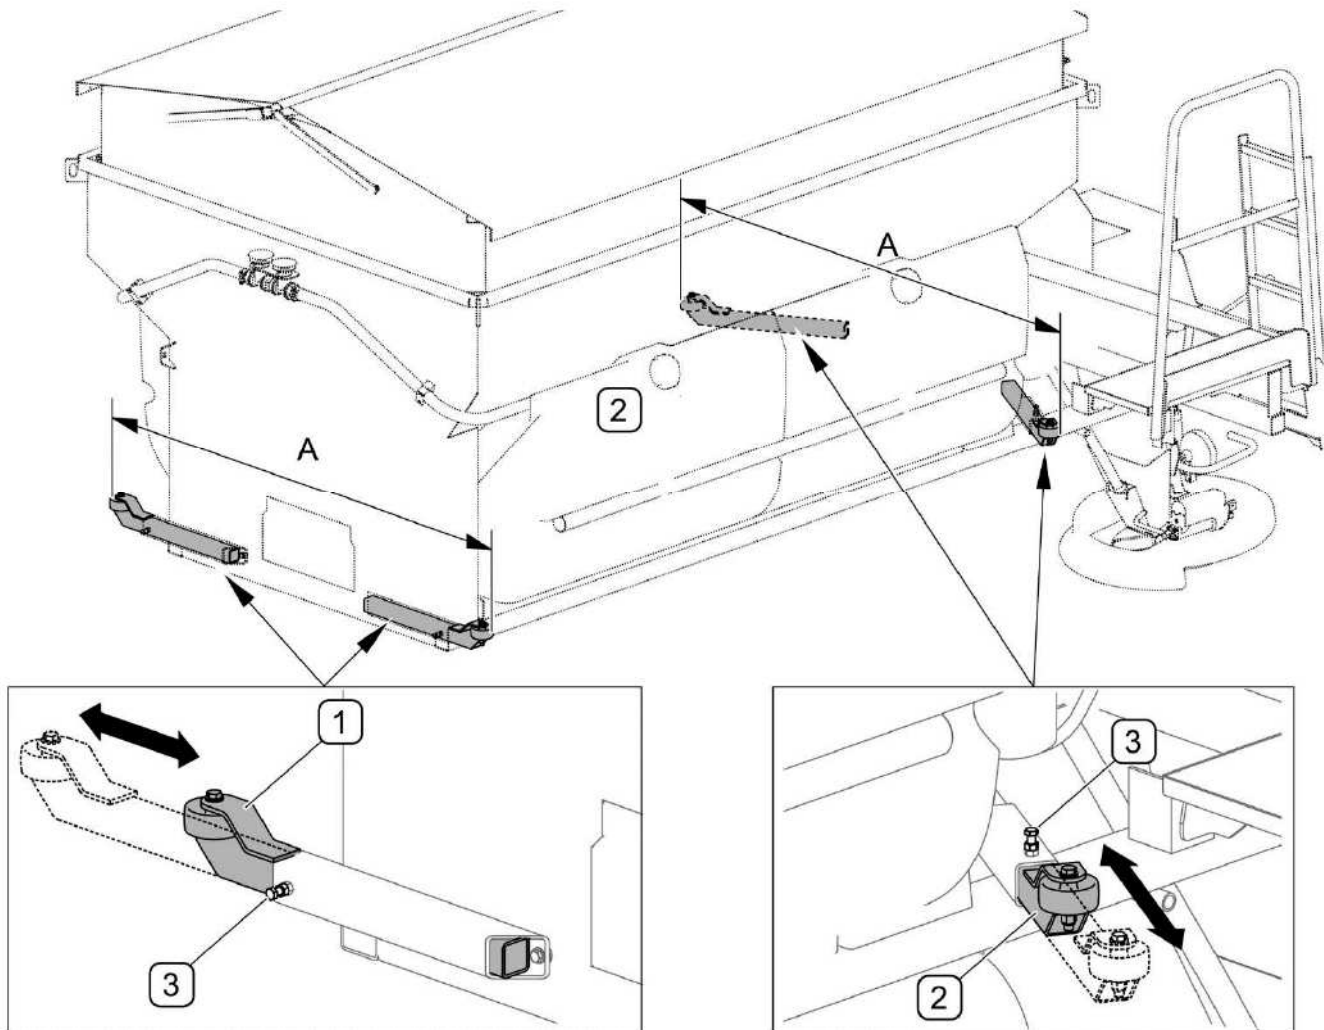

FIG. 4.2 Guides
Position setting is facilitated by adjustable guides (1) and (2) with wheels (FIG. 4.2) and limiters attached to the bottom of frame beam in the rear section of the machine. Set the front (1) and rear (2) guides in such a manner as to ensure that dimension (A) is slightly smaller than internal width of the carrying vehicle's load platform (FIG. 4.2)
Guides (FIG. 4.2) are used in carrying vehicles which have sufficiently strong side walls of the load platform.
The use of guides (FIG. 4.2) depends on the method of fixing the machine on load platform (see 4.3.2 SECURING THE MACHINE TO THE CARRYING VEHICLE'S LOAD PLATFORM)